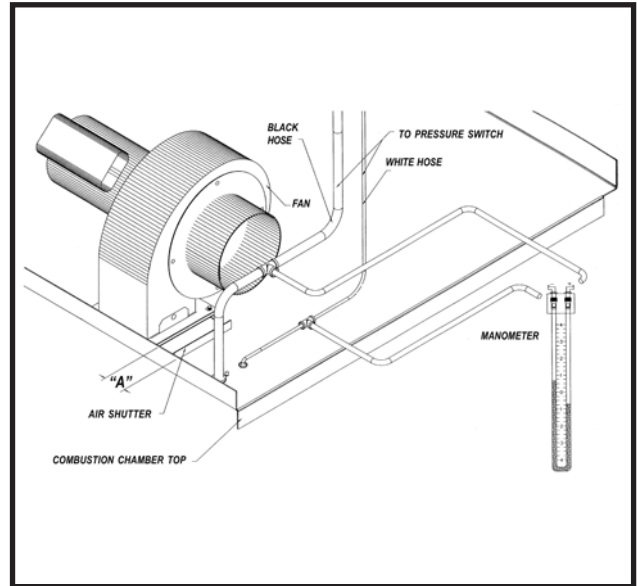

FIG. 43 Combustion Air Shutter Adjustment
a. Loosen two combustion air blower mounting nuts, to allow the air shutter to slide. See Figure 43.